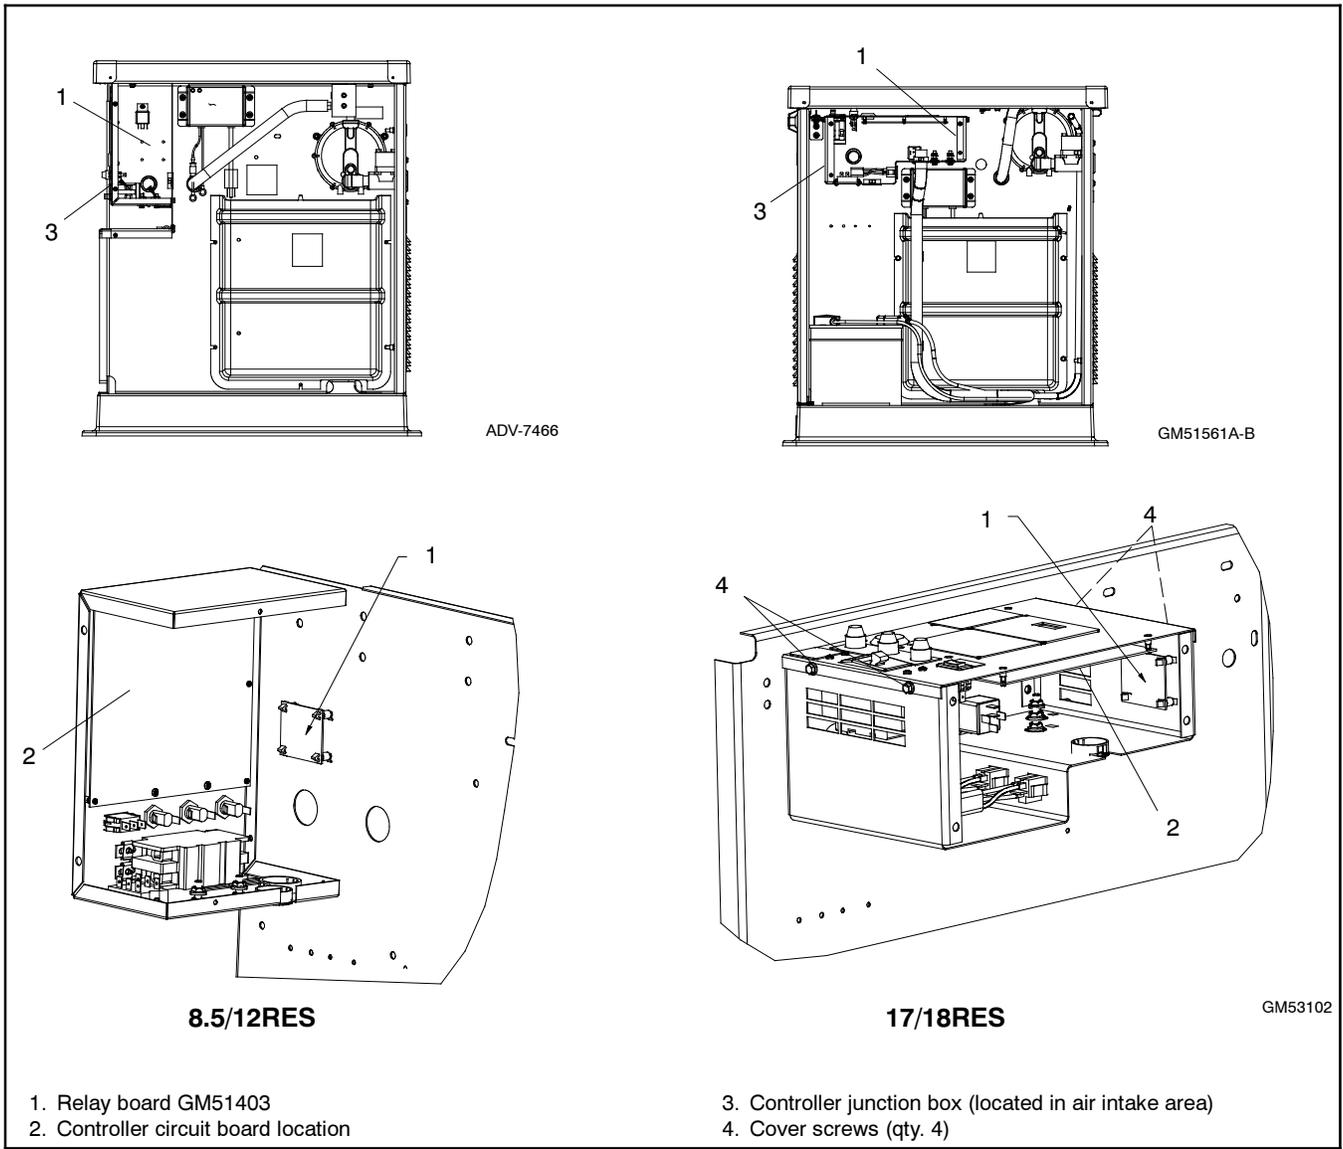
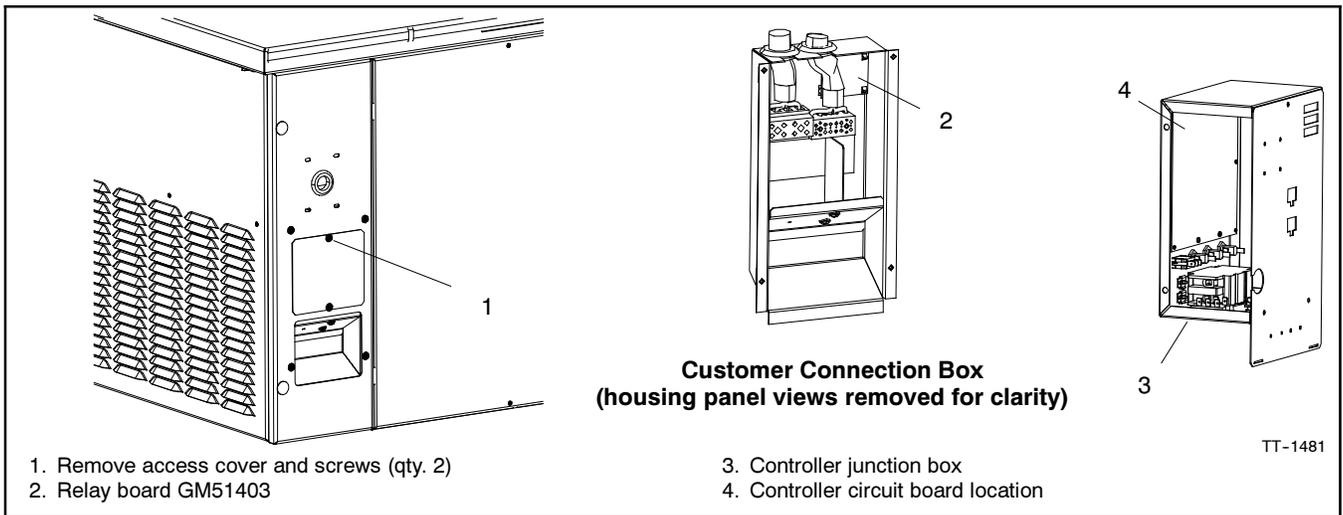
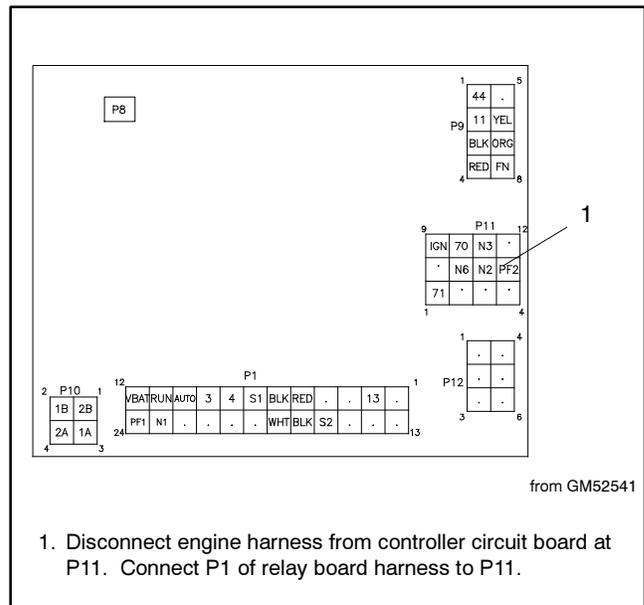

Figure 2 GM53102-KP1 Relay Board Location (inside controller junction box)
Figure 3 GM53102-KP2 Relay Board Location (inside customer connection box)
Figure 5 Connection to Controller Circuit Board
See Figure 2 for GM53102-KP1 relay board mounting location. See Figure 3 for GM53102-KP2 relay board mounting location.
5. See Figure 2 or Figure 3 for the relay board location. If the mounting standoffs are not already installed, insert four standoffs 360459 (provided) into the four holes in the box.
6. Press relay board GM51403 onto the four (4) standoffs inside the box. See Figure 2 or Figure 3.
7. Disconnect the engine harness from the control board at P11. See Figure 2 or Figure 3 for the control board location inside the junction box. See Figure 5 for P11 connector identification.
8. Connect P1 of the relay board harness provided to P11 on the control board. See Figure 5 and Figure 9.